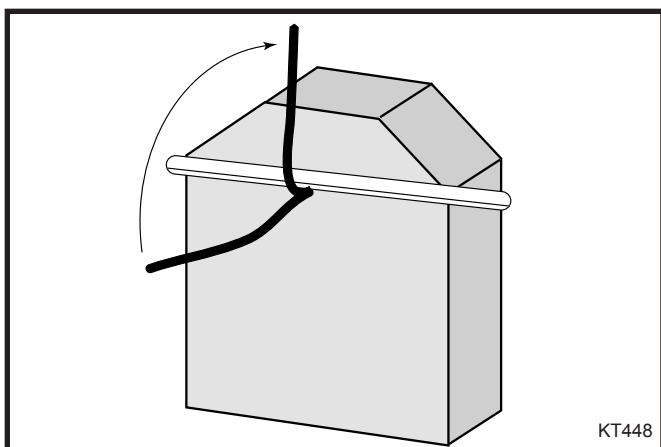

Fig. 28 Hold the bar in place as you bend the new lever into position.
4. Bend the thermostat lever into position. The thermostat lever may need to be bent slightly toward the stove to be easily accessible. (Fig. 28)